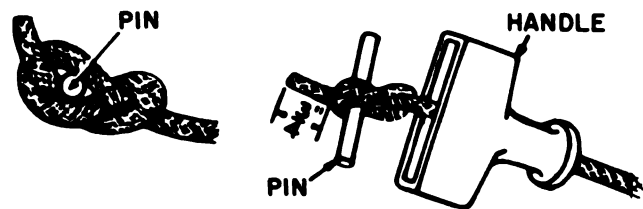

Figure 6-7. Starter rope handle replacement.
c. **Installation.** Installation is the reverse of removal. Install starter rope handle as shown in figure 6-7.
(15) Carefully remove knot on starter housing end of rope, thread the rope through the front panel, and tie on the pull-start handle (fig. 6-7).